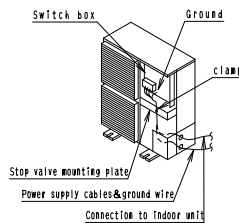

Fig. 7
- Fix cables as shown in Fig. 7 so that cables do not make contact with the pipes (especially on high pressure side).